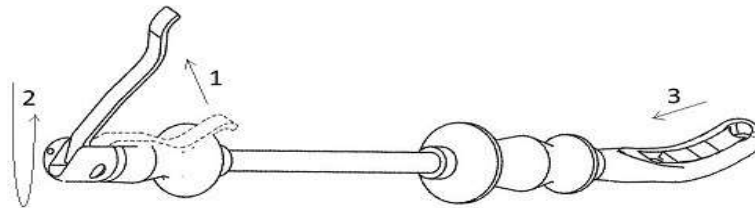

Fig. 2
9.3.1 OPENING (Fig.2)
The extracted implant is removed from the tool with the same steps explained under OPENING of the instrument. (Fig. 2)